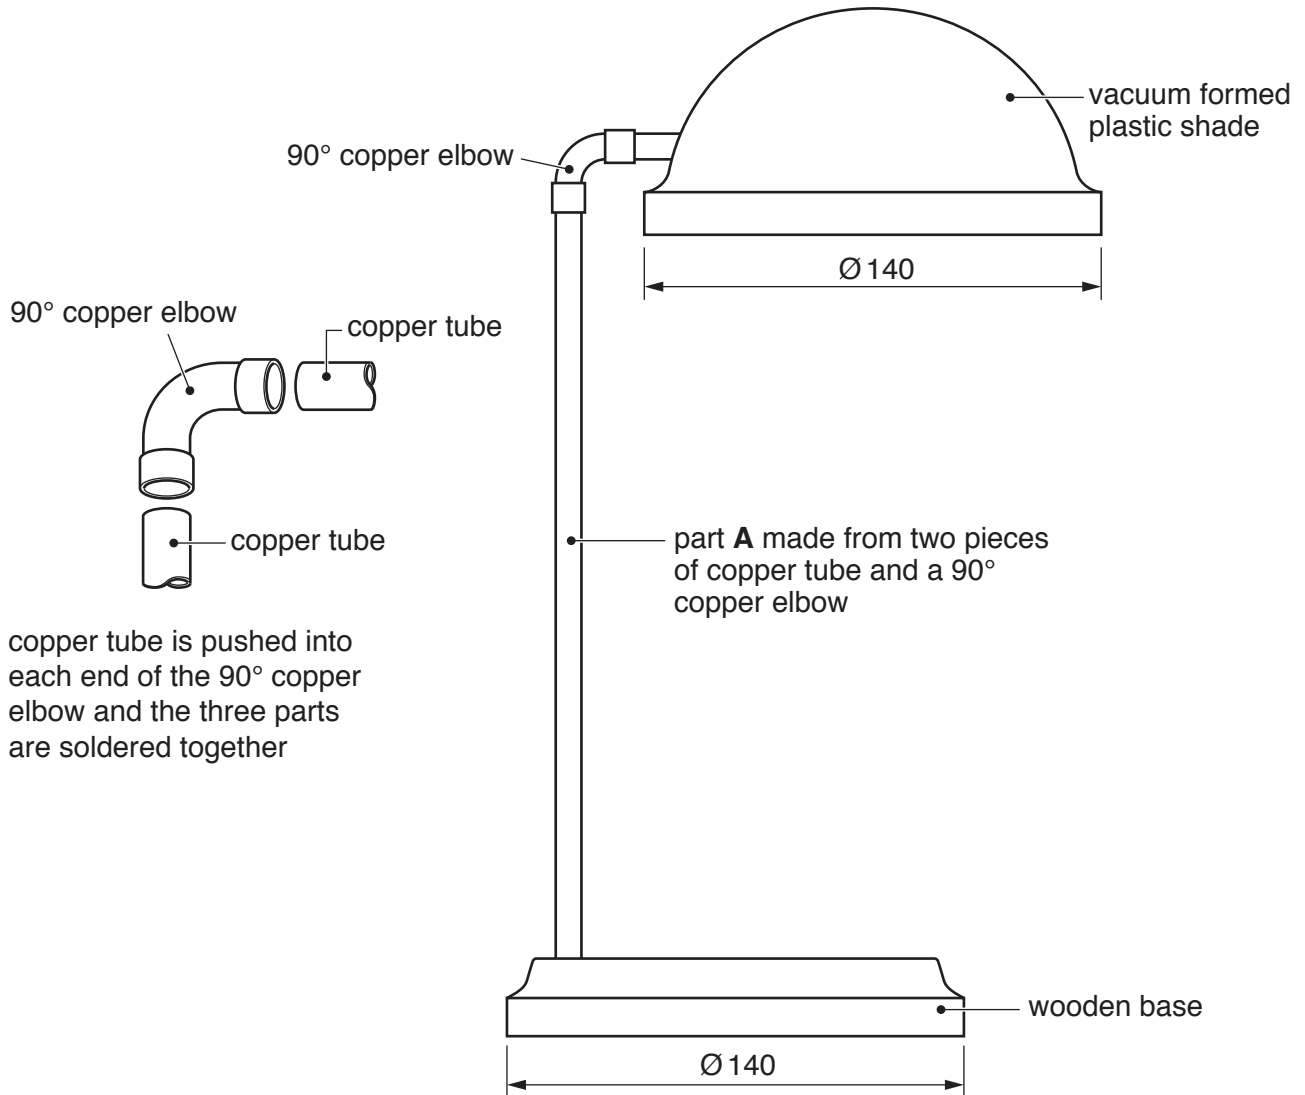

Fig. 1
- 1 Fig. 1 gives details about a table lamp that is to be made in a school workshop.